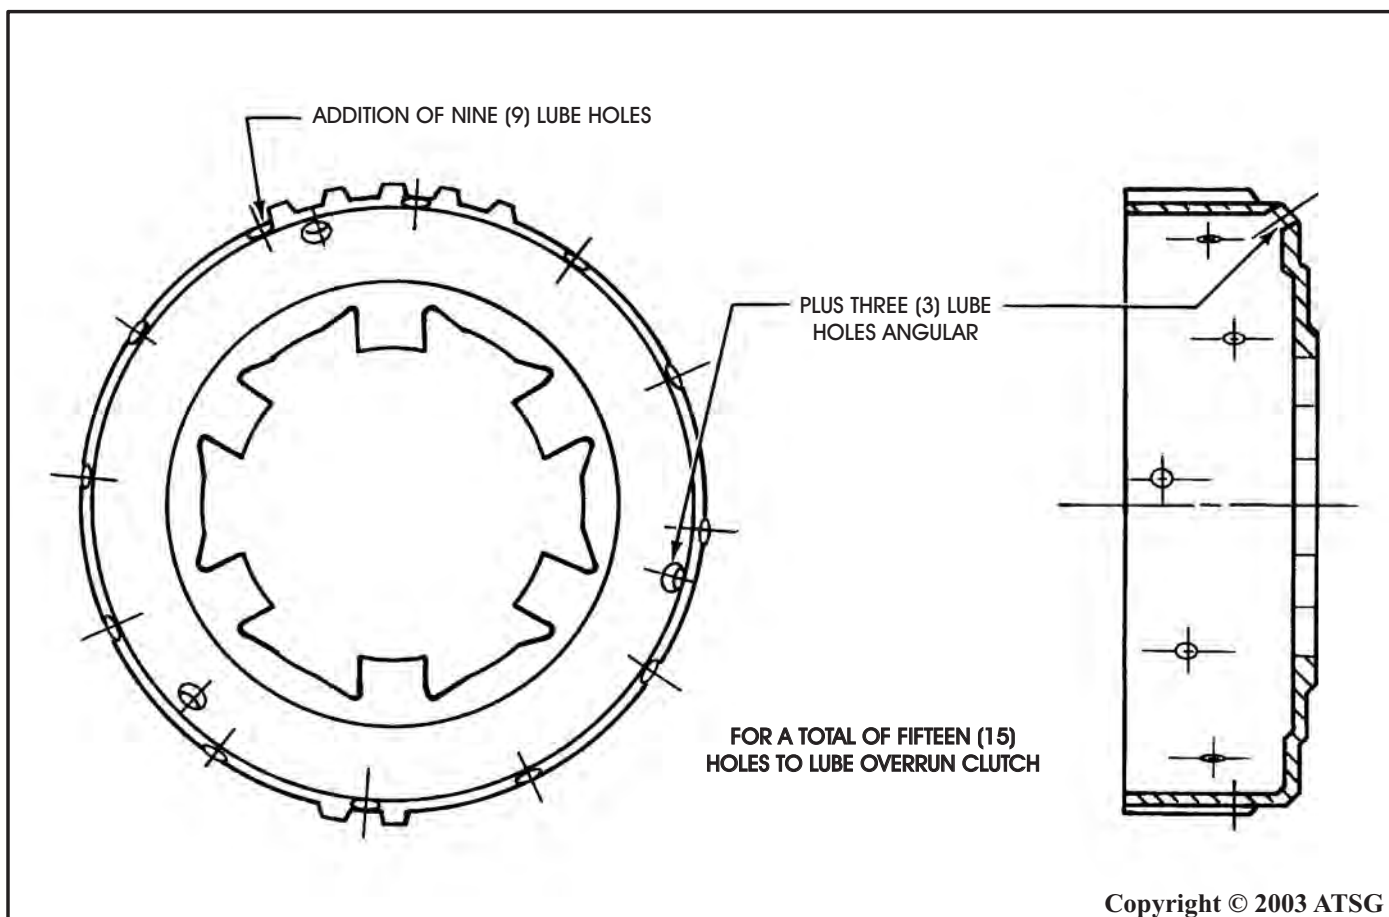

Figure 22
CHANGE: Beginning on July 17, (Julian Date 198) 1986, all 1987 THM 700-R4 transmissions were built with a new overrun clutch hub with more lube holes drilled, as shown in Figure 22.
- (1) **OVERRUN CLUTCH HUB** - Now has twelve lube holes drilled in the circumference of the hub instead of the previous three, plus three angular holes for a total of 15 holes, as shown in Figure 22.
The new design 28 element Forward Sprag Assembly includes the updated Overrun Clutch Hub shown in Figure 22, and is available under OEM part number 8657928.